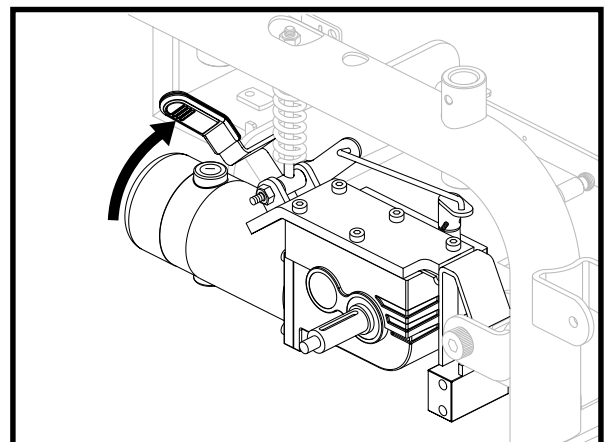

Figure 11. Drive Mode (Drive Engaged)
2. Pull the manual freewheel lever upon each motor for drive mode (drive engaged). See figure 11.